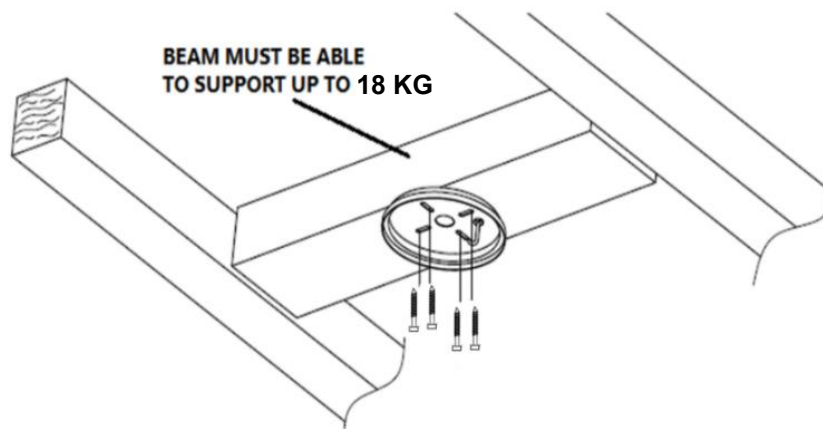

Fig. 2
- Install the hanging bracket to the ceiling joist or structure that is capable of carrying a load of at least 18kg, with 4 long screws provided. Ensure at least 30mm of the screw is threaded into the support. (Fig. 2)